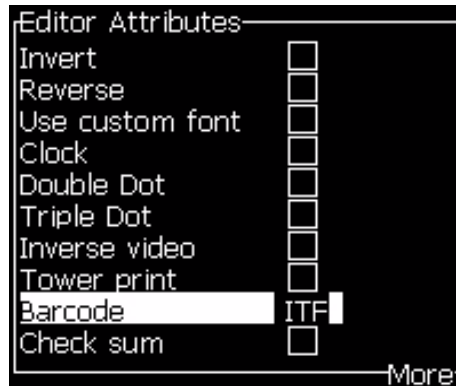

Figure 5-14: Select the Type of Barcode
- 2 Press the *F3* key or *ALT + E* and select *In-line Attributes* to open the *Editor Attributes* screen (Figure 5-14 on page 5-24).